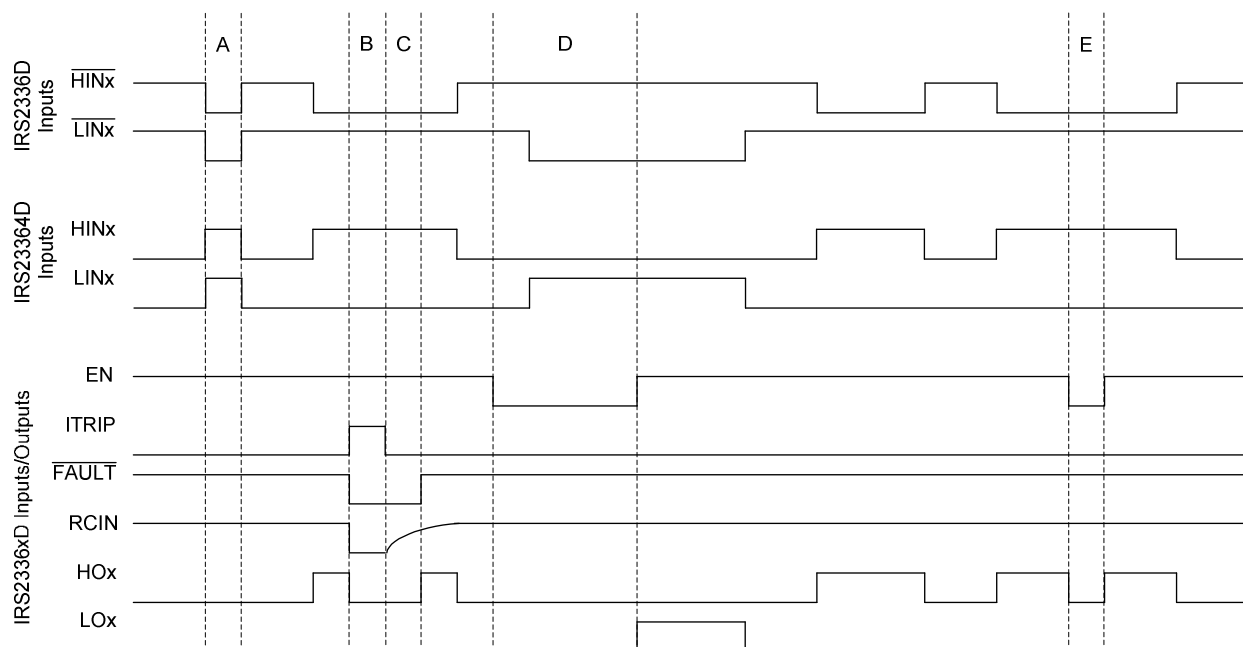
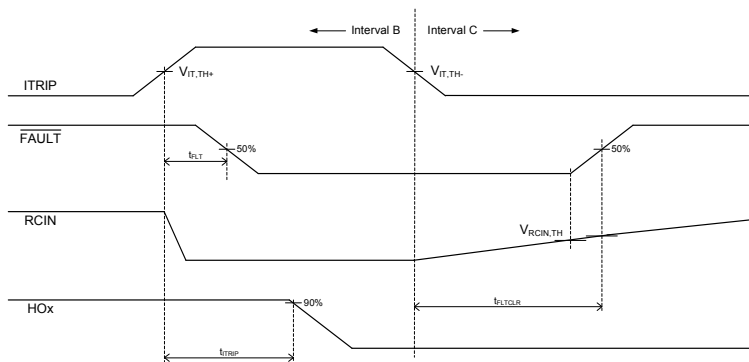

Figure 5: Input/output timing diagram for the IRS2336xD family
Figure 6: Detailed view of B & C intervals
During interval A of Figure 5, the HVIC has received the command to turn-on both the high- and low-side switches at the same time; as a result, the shoot-through protection of the HVIC has prevented this condition and both the high- and low-side output are held in the off state.
Interval B of Figures 5 and 6 shows that the signal on the ITRIP input pin has gone from a low to a high state; as a result, all of the gate drive outputs have been disabled (i.e., see that HOx has returned to the low state; LOx is also held low), the voltage on the RCIN pin has been pulled to 0 V, and a fault is reported by the FAULT output transitioning to the low state. Once the ITRIP input has returned to the low state, the output will remain disabled and the fault condition reported until the voltage on the RCIN pin charges up to $V_{RCIN,TH}$ (see interval C in Figure 6); the charging characteristics are dictated by the RC network attached to the RCIN pin.
During intervals D and E of Figure 5, we can see that the enable (EN) pin has been pulled low (as is the case when the driver IC has received a command from the control IC to shutdown); this results in the outputs (HOx and LOx) being held in the low state until the enable pin is pulled high.